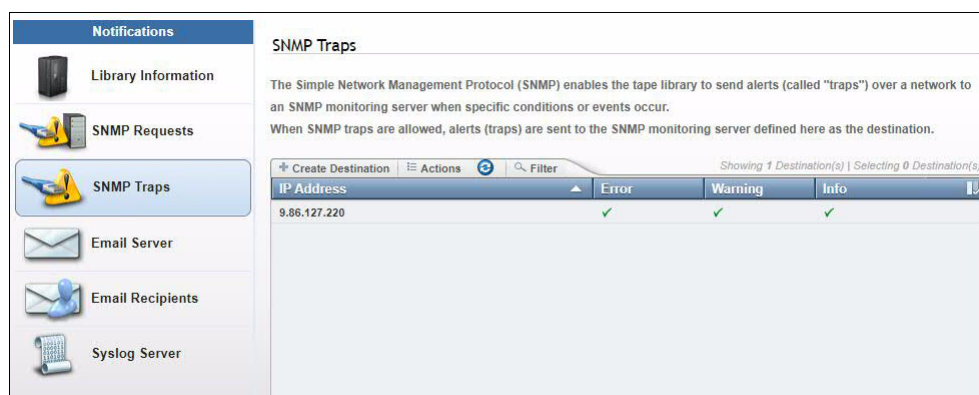

Figure 4-27 SNMP Traps window
1. From the SNMP Destinations window, select the **Create Destination** tab to display the Add Destination window, as shown in Figure 4-27.